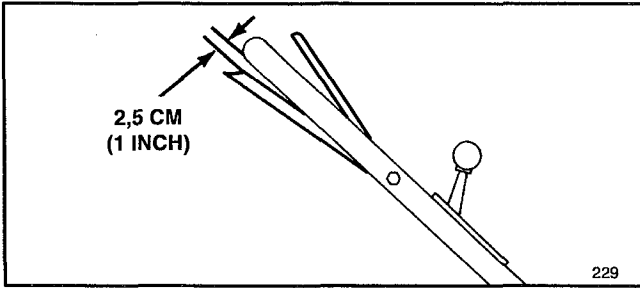

Figure 25
3. CHECK ADJUSTMENT—Slowly pull mower backward while self-propel control bar is gradually moved toward handle. Adjustment is correct when rear wheels stop turning and self-propel control bar is about 25 m (1 inch) from handle (Fig. 25).